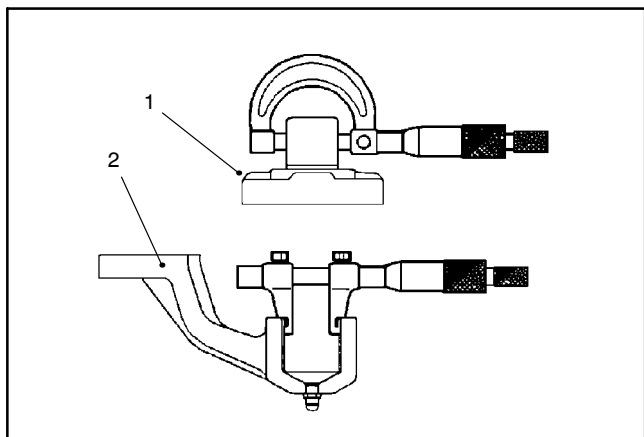

Figure 17
1. Measure the knuckle pin O.D. and the axle case support bushing I.D. to determine the bushing to pin clearance (Fig. 17). Replace components as necessary.